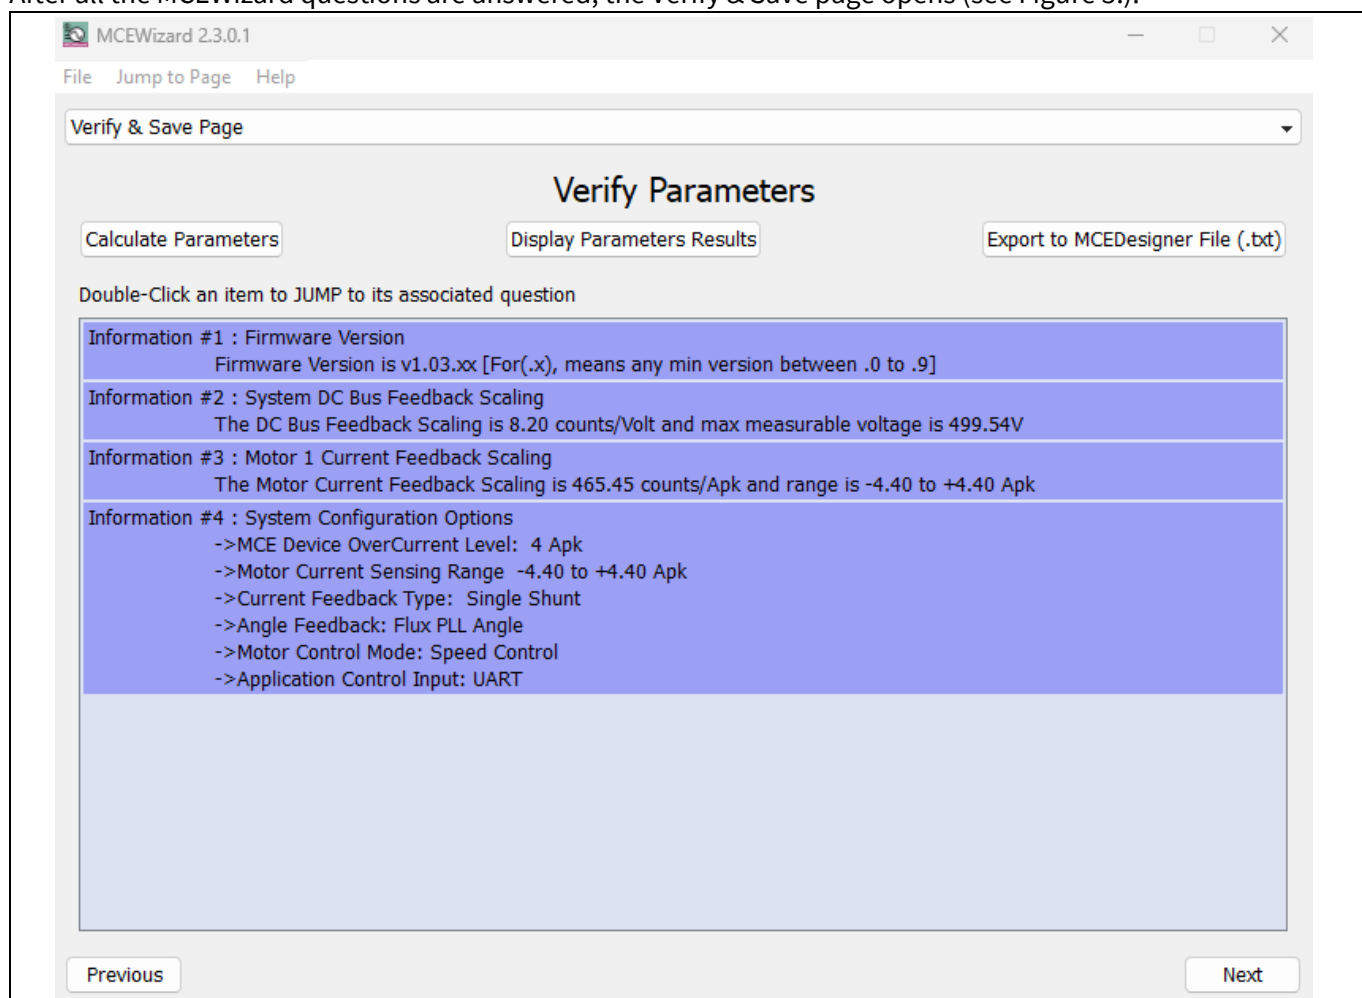

Figure 5 Verify & Save page of the MCEWizard
3. Go to the Verify & Save page and click **Calculate Parameters**. Then, save the drive parameter set into your project directory by clicking **Export to MCEDesigner file (.txt)** (see Figure 5). This saved drive system parameter file will be used later by the MCEDesigner. Refer to Section 2.1.4 or the MCEWizard user guide for more information.
After all the MCEWizard questions are answered, the Verify & Save page opens (see Figure 5.).